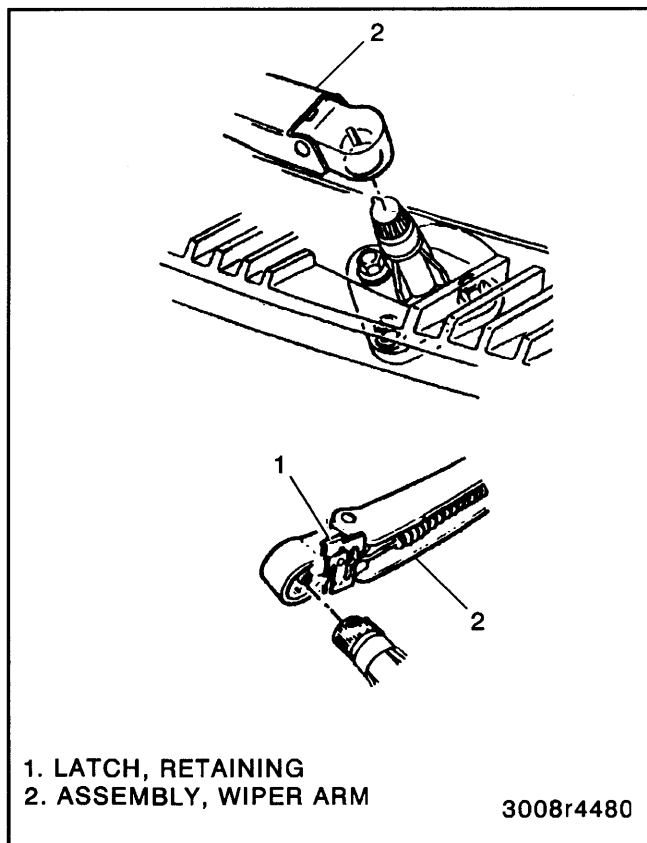

Figure 17—Wiper Arm Attachment
↔ Remove or Disconnect (Figure 17)
↔ Install or Connect (Figure 17)
Remove or Disconnect (Figures 17 and 20)
- Lift the wiper arm into the servicing position, and move the latch into the open position before removing the wiper arm (figure 17).
Install or Connect (Figures 17 and 20)
- Place the wiper arms on the transmission drive shafts and lock them into place with the latch (figure 17).